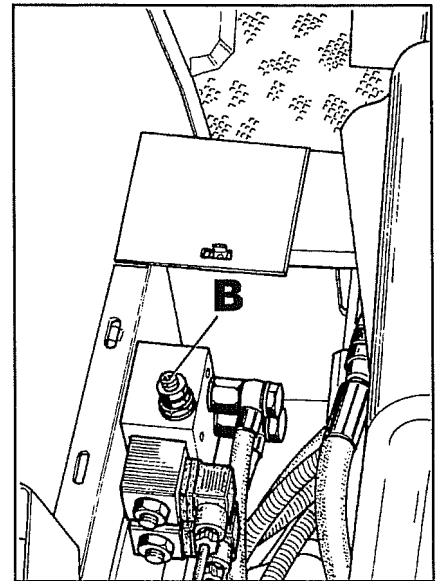

Fig. 14
- 20 Pressurise the circuit by screwing in grubscrew **B** on the valve fig. 14.